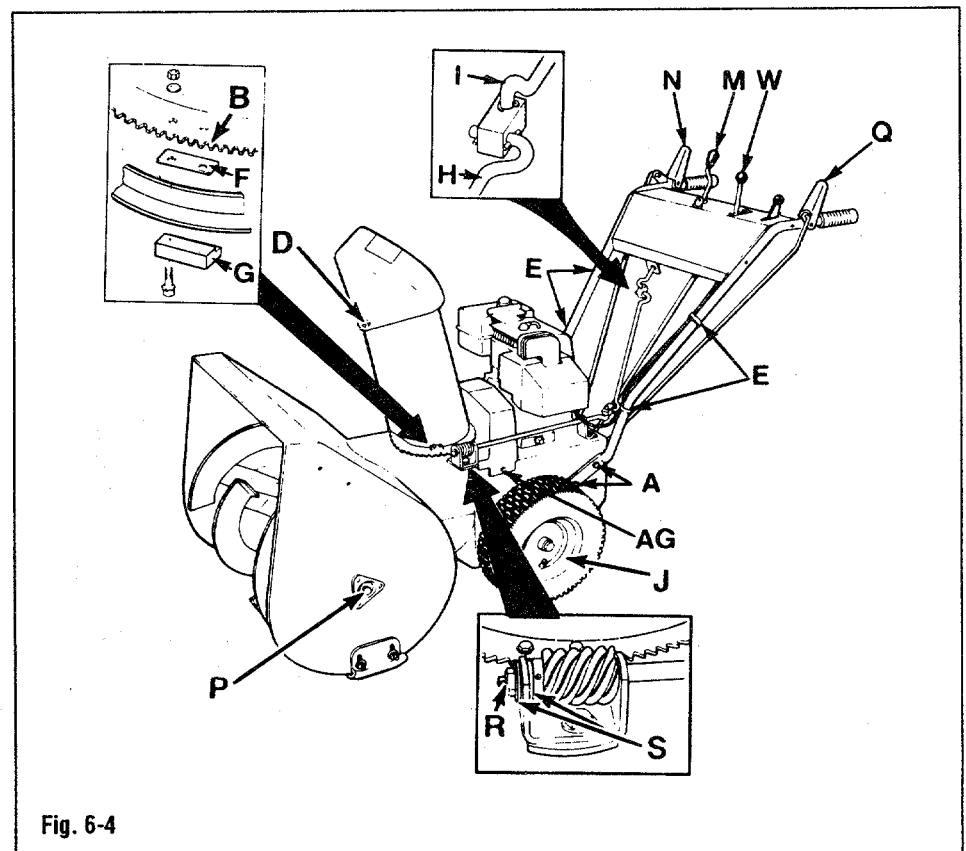
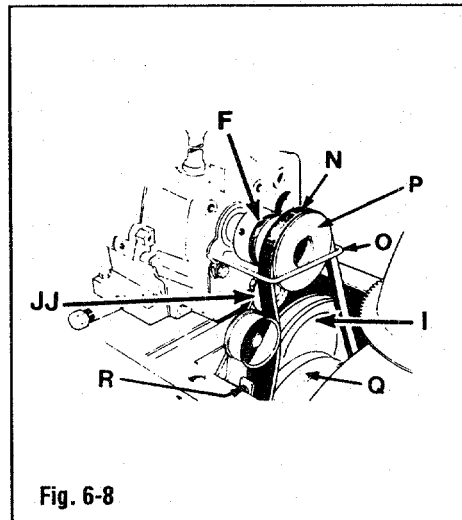

Fig. 6-4
Fig. 6-8
1. Lightly oil both deflector chute cap pivot points (D, Fig. 6-4) located on each side of the deflector chute cap.
3. Remove left-hand wheel (J, Fig. 6-4). Clean wheel shaft and apply fresh bearing grease to shaft. Reinstall left-hand wheel.
4. Apply oil to bearings on sides of auger shaft (P, Fig. 6-4). Wipe off excess oil.
5. Clean dirt and remove old grease from toothed portion on flange at bottom of discharge chute (B, Fig. 6-4). Apply fresh grease to worm gear, toothed portion of flange and flange. Adjust lock nut (R) and friction shims (S) to help prevent force of snow discharge from turning chute. Periodically check tightness of lock nut (R). Do not overtighten lock nut (R).
1. Remove two bolts (AG, Fig. 6-4) and belt cover from unit.
2. Remove two bolts securing belt guide (O, Fig. 6-8) to back of engine. Remove belt guide.
3. Move auger drive belt (N) out of groove in auger drive pulley (P). Release tension on idler (JJ).
4. Move wheel drive belt (F) off lower drive pulley (I). Depress wheel drive handle on left handlebar (Q, Fig. 6-4) to increase gap between lower pulleys as needed. Move lower part of wheel drive belt up through gap.
7. Pivot idler (JJ, Fig. 6-8) rearward. Place upper end of belt into groove closest to engine. Reinstall auger drive belt in its pulley groove.
8. Reinstall belt guide (O). Perform wheel drive belt adjustment.
1. Remove two bolts securing belt cover (AG, Fig. 6-4) to snowthrower. Remove belt cover.